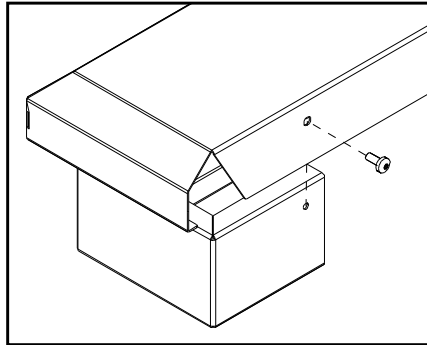

Figure 36: Installing Base Shelf onto Riser.
3. If installing with riser(s) the Base Shelf is to be fastened to the riser(s) with one T-20 screw at each end of the back (see Figure 36).